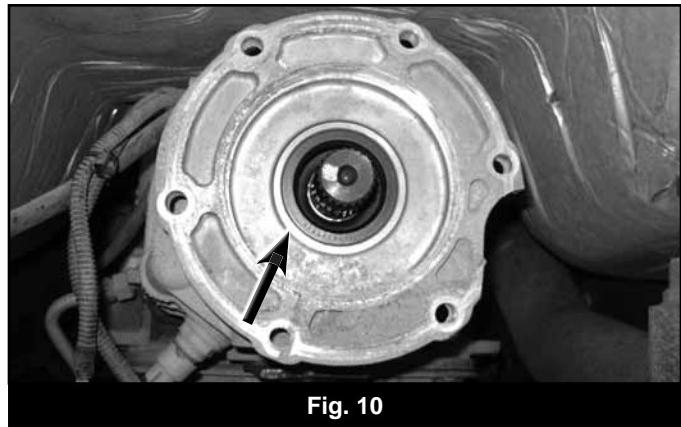

Fig. 10
18. Automatic Transmission models only: Remove the output seal from the transmission (Fig 10). Manual transmission models skip to step 21.